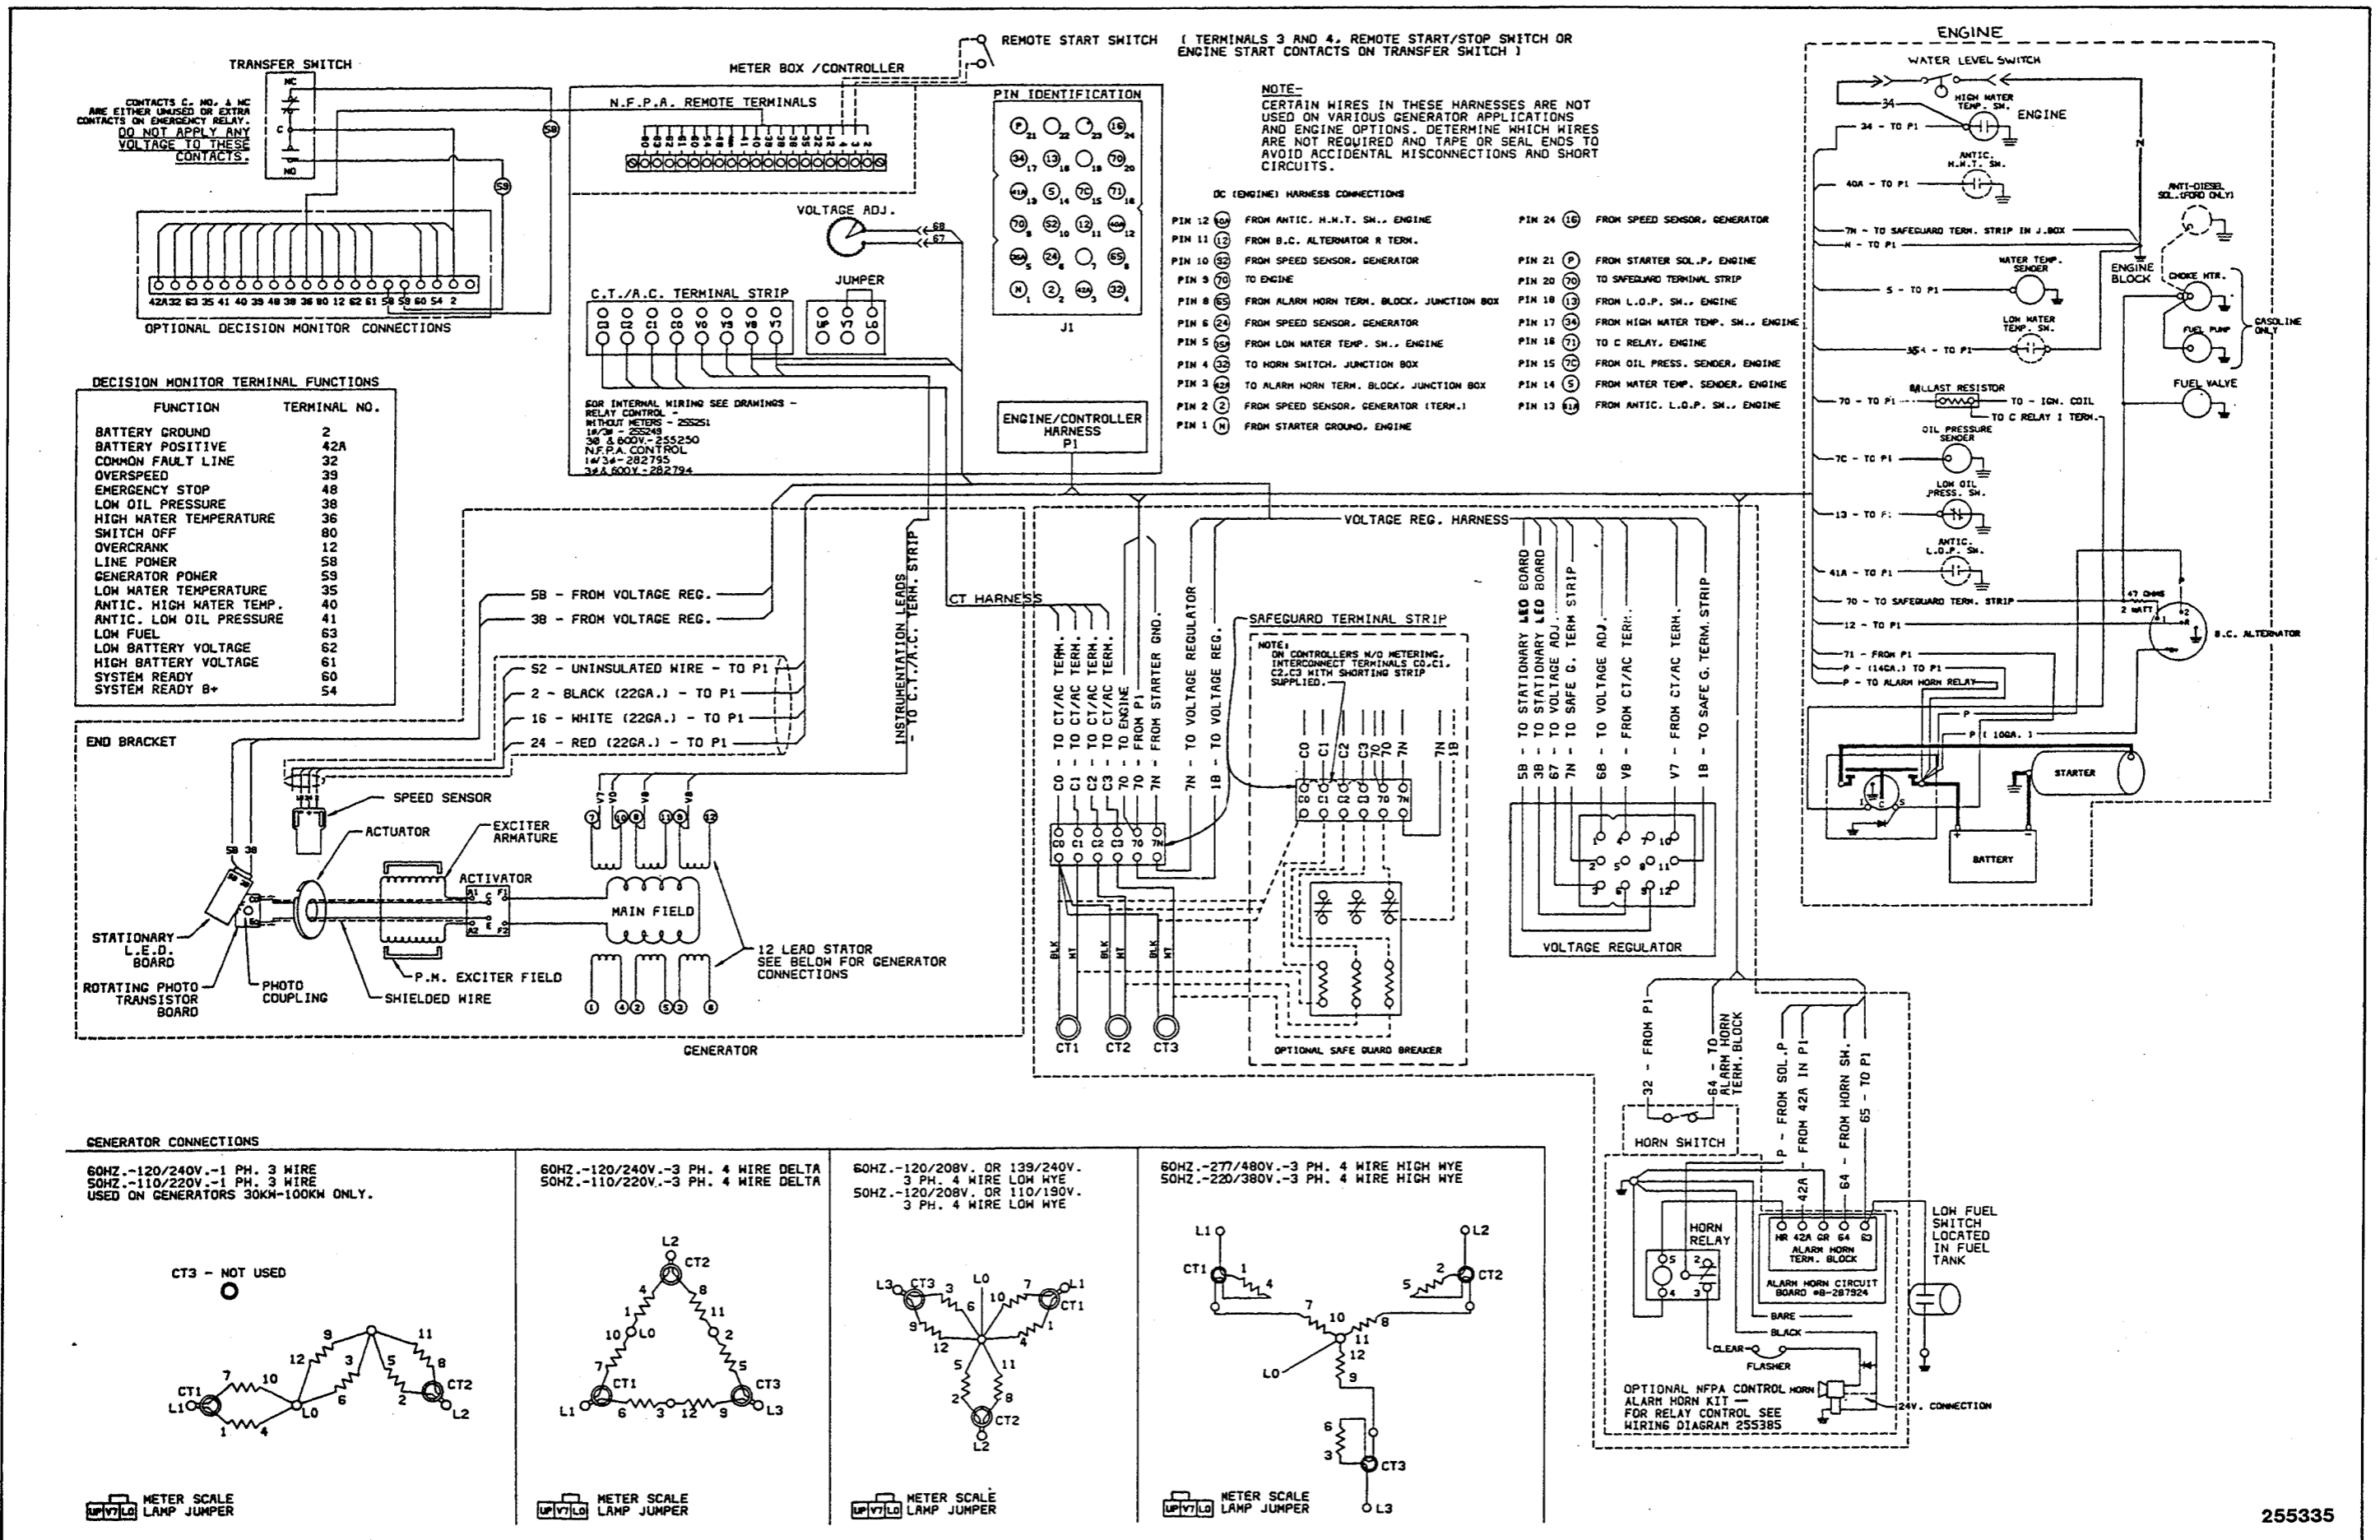

Figure 7-7. Ford LSG-875 Gas/Gasoline w/Breaker Ignition, 1-Phase/3-Phase
- Figure 7-7. Ford LSG-875 Gas/Gasoline w/Breaker Ignition, 1-Phase/3-Phase